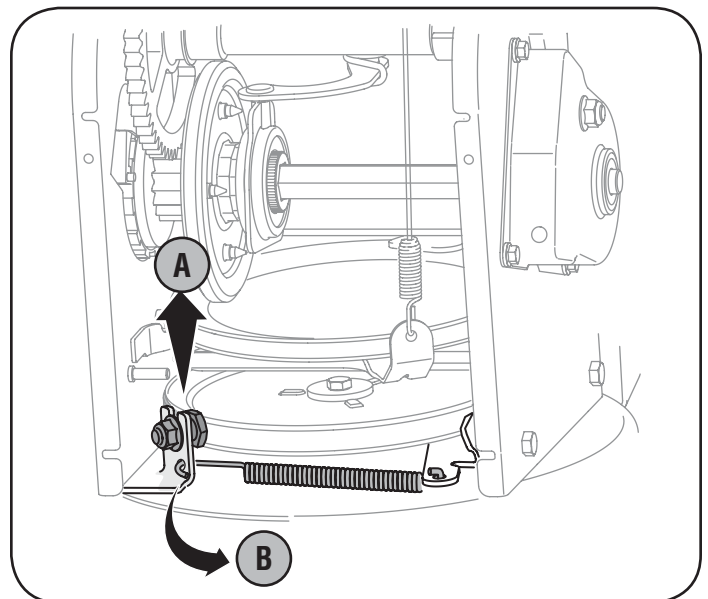

Figure 34
6. Remove the belt as follows. Refer to Figure 34.